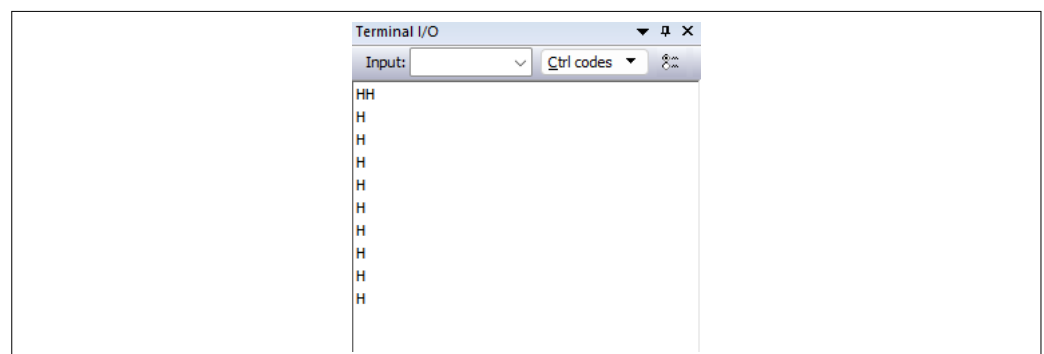

Figure 21 IAR terminal I/O window showing printf output
- e. You should see the user LED toggling every second. The Terminal I/O window displays logs as shown in Figure 21